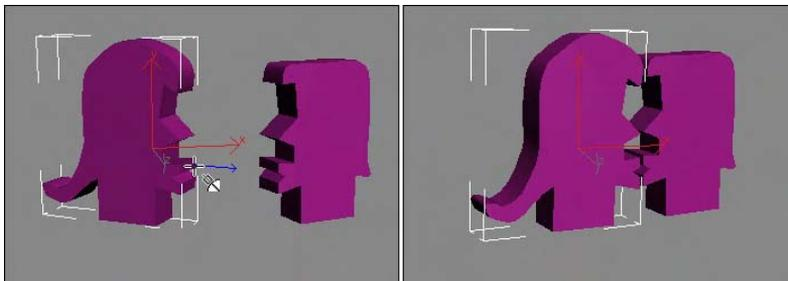

Figure 10-13: Using the Normal Align feature, you can align object faces.
2. Select the girl shape, and choose the Tools ⇨ Align Normals menu command (or press Alt+N). Then drag the cursor over the extruded shape until the blue vector points out from the front of the lips, as shown in Figure 10-13.
Figure 10-13 shows the resulting couple with normal aligned faces.